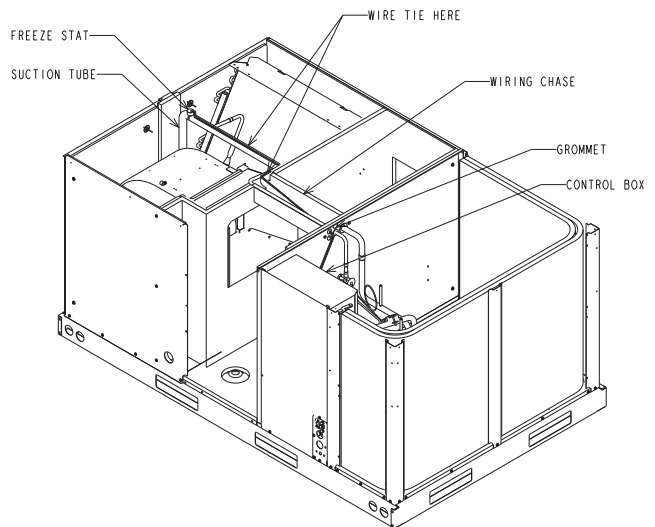

FIGURE 2
- Refer to the wiring diagrams (Figures 2 through 5) and wiring diagram in unit control box for proper electrical connections.